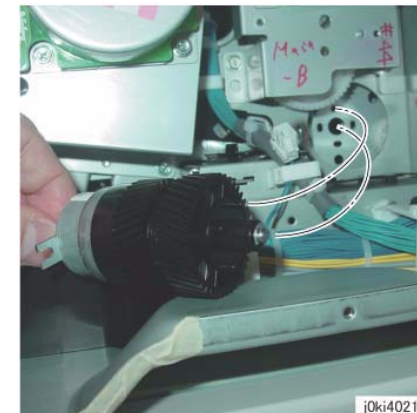

Figure 9 Install the Takeaway Clutch
2. When installing the Takeaway Clutch, align the bosses (x4) of the bearing to the installation holes. (Figure 9)